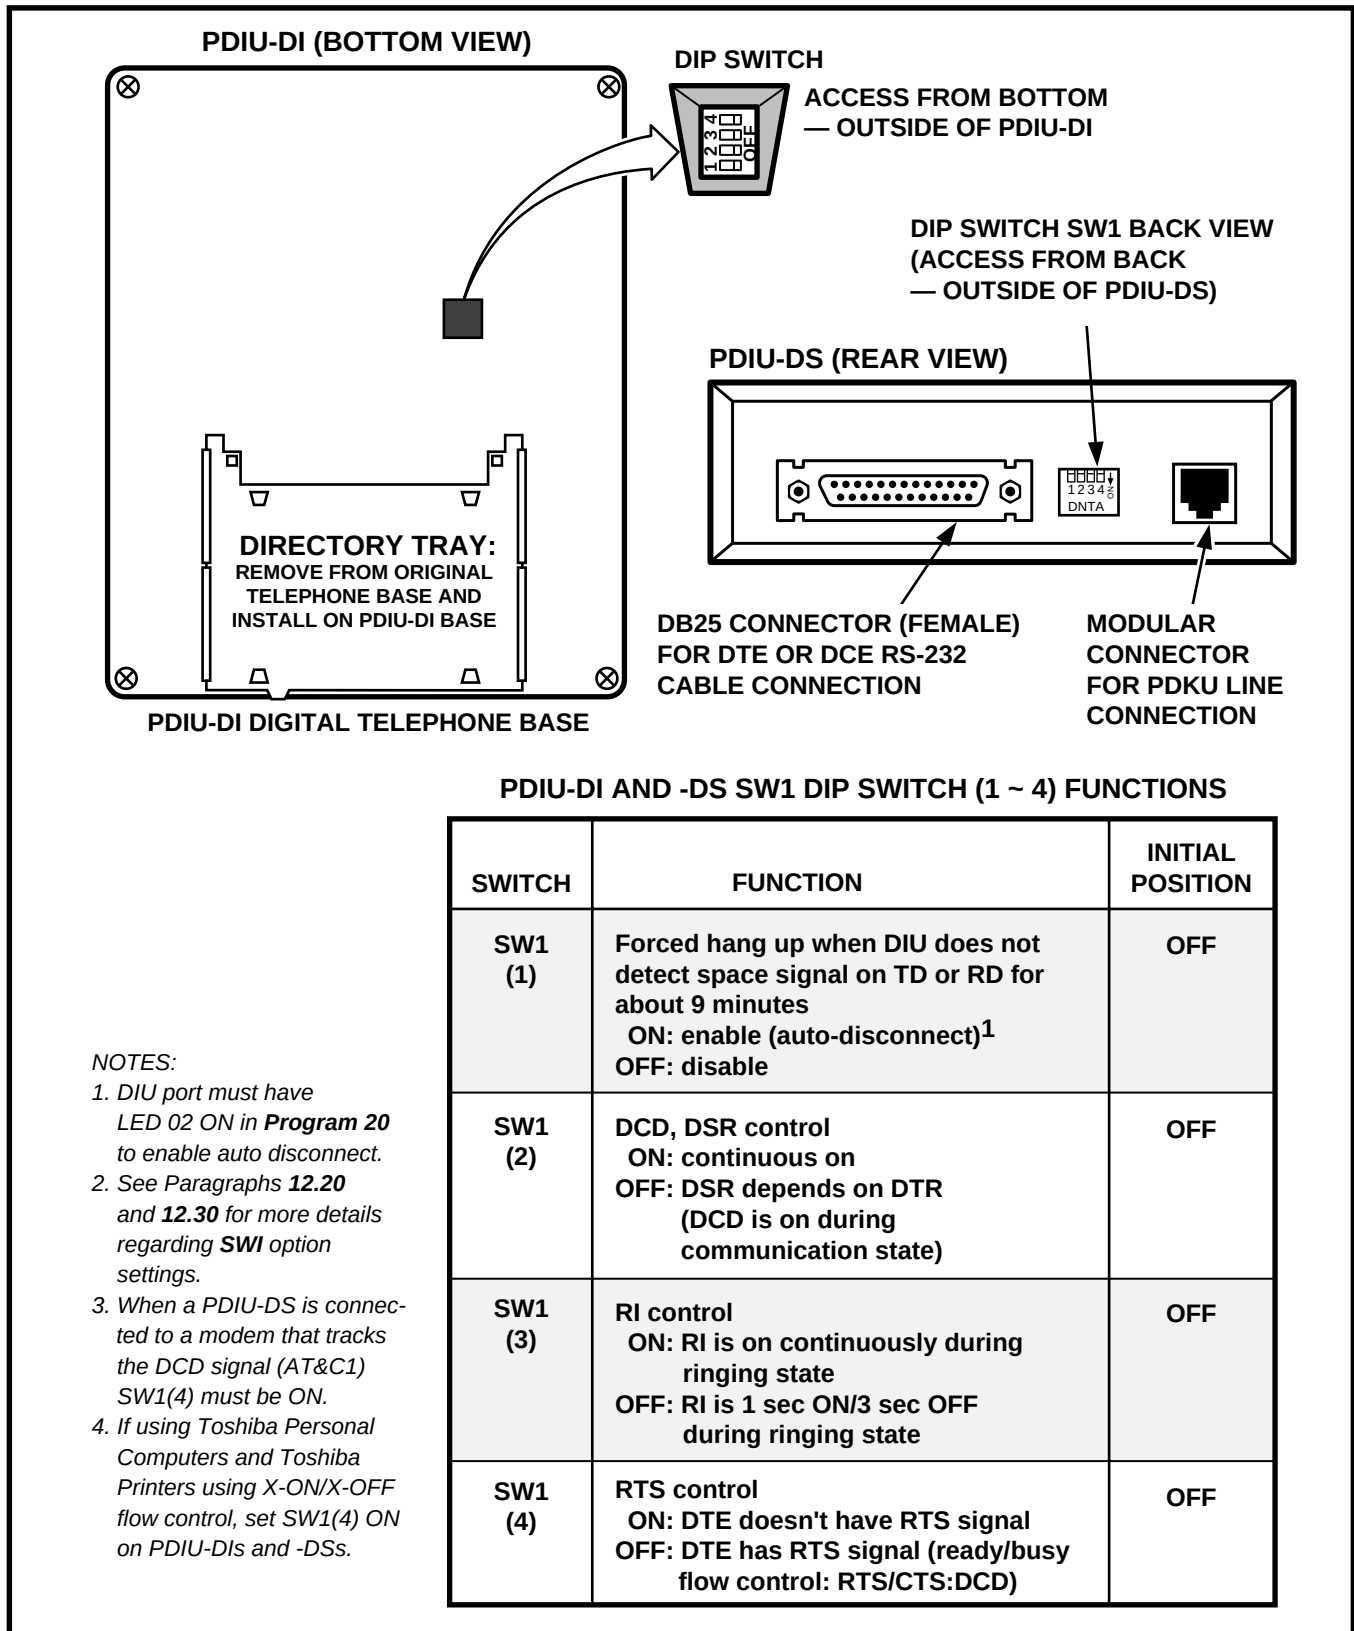

FIGURE 8-36
- 4) Set the PDIU-DI DIP switch (**SW1-1 ~ 4**) for the desired application. Figure 8-36 shows the DIP switch locations and Paragraph 12.30 describes switch functions.
- 5) Set the PDIU-DS DIP switch (**SW1-1 ~ 4**) for the desired application. Figure 8-36 shows the DIP switch locations and Paragraph **12.30** describes switch functions.
- 5) Set the PDIU-DS DIP switch (**SW1-1 ~ 4**) for the desired application. Figure 8-36 shows the DIP switch location and Paragraph **12.30** describes switch functions. SW1-2 should be OFF when PDIU-DS is connected to a modem.